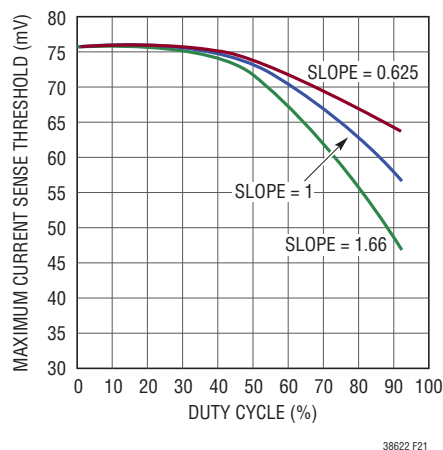

Figure 21. Maximum Sense Voltage Variation with Duty Cycle and Slope Gain
The peak sense voltage threshold for the LTC3862-2 is 75mV at low duty cycle and with a normalized slope gain of 1.00, and is measured from SENSE+ to SENSE-. Figure 21 illustrates the change in the sense threshold with varying duty cycle and slope gain.
11. The maximum current sense threshold for the LTC3862-2 is 75mV at low duty cycle and a normalized slope gain of 1.0. Using Figure 21, the maximum sense voltage drops to 68mV at a duty cycle of 70% with a normalized slope gain of 1, so the sense resistor is calculated to be: